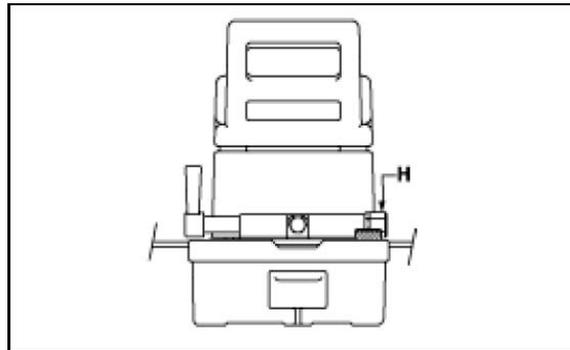

Figure 8
6.0 RELIEF VALVE ADJUSTMENT (Figure 8)